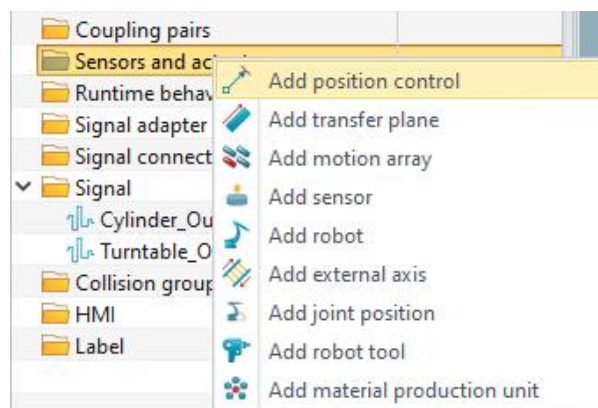

Figure 13-25: Add position control
- Open the "Sensors and actuators" window and select "Add Position Control".(Figure 13-25)